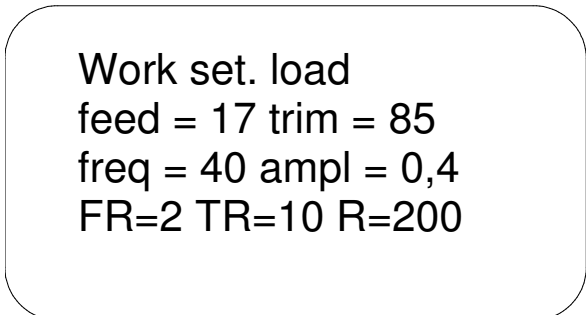

Fig. 23
- Turn the large turning knob to select one of the ten work settings (fig. 23).